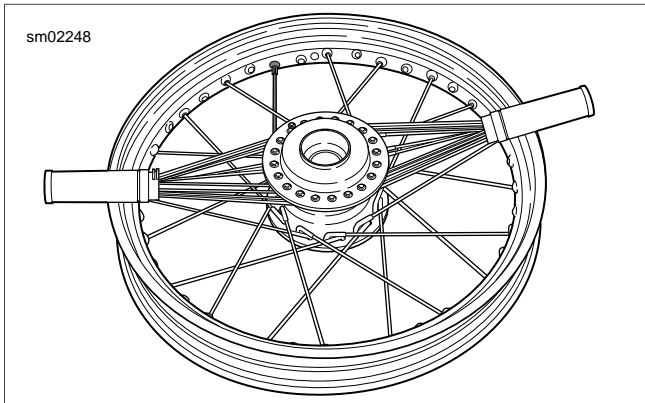

Figure 2-33. Beginning Spoke: Bottom Flange Outer
13. See Figure 2-33. Using the spoke alignment method discussed previously, locate a hole pointing downward and outward toward the bottom flange of outer spokes (short head).